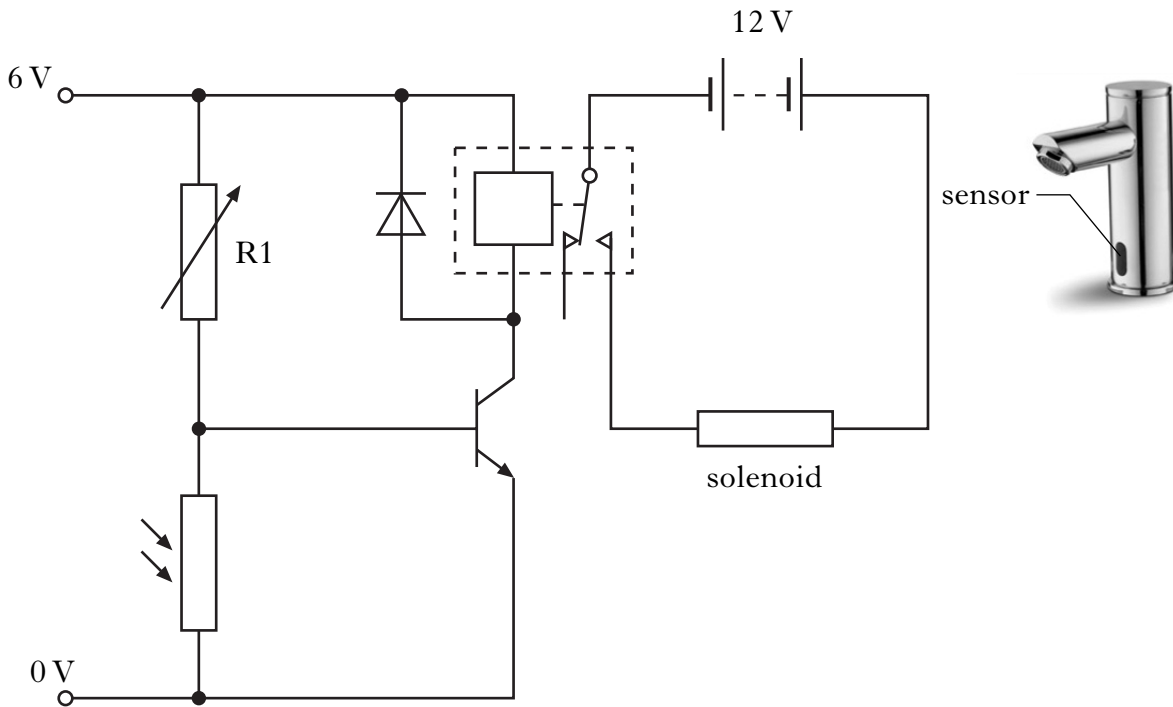

Figure Q5
5. The proposed circuit used to control an automatic hot water tap is shown in Figure Q5. An LDR is positioned under the tap to sense when a user's hand is present and a solenoid is used to open the tap.